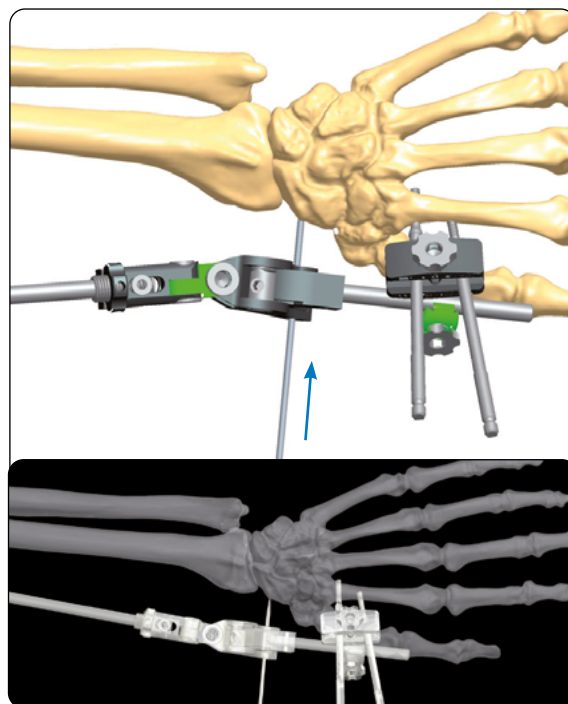

Fig. 12
- If necessary a \varnothing 1.5mm K-wire can be used to assist in aligning the fixator with the center of rotation of the wrist joint, which is located within the head of the capitate¹ in both flexion and extension, and radial and Ulnar deviation (**Fig. 12**)